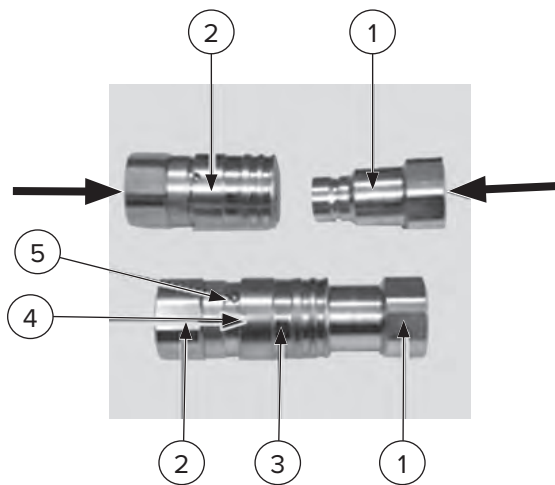

Figure 5
1. Push the male section [Figure 5, Item 1] into the female section [Item 2] until it clicks into place in the ring nut [Item 3].
NOTE: Figure 5 shows flat-faced quick couplings with a snap-fastening safety ring nut.
4. To disconnect the hoses with the flat-faced quick couplings: turn the ring nut [Figure 5, Item 3], so that the notch [Item 4] lines up with the spherule [Item 5], push the ring nut [Item 3] towards the spherule [Item 5] to disconnect the quick coupling.